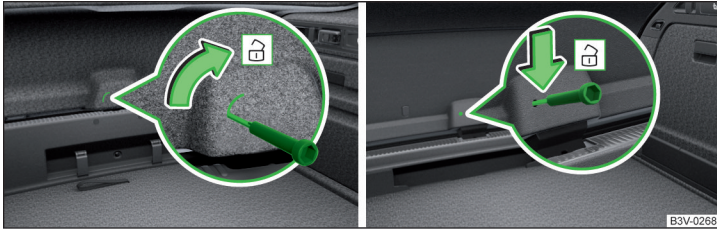

Fig. 350 Unlatch lid: Version 1/version 2
- › Insert a screwdriver or similar tool into the recess or the opening in the trim» Fig. 350 as far as the stop.